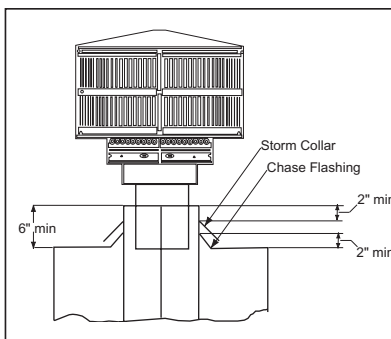

Figure 20B - Installing a TR344 Round Termination Cap
- Install the chimney sections up through the chase enclosure. When using a TR344 round termination cap, the uppermost top section of pipe must extend 6" above the top of the chase collar to allow installation of the storm collar and termination cap. See Figure 20B.